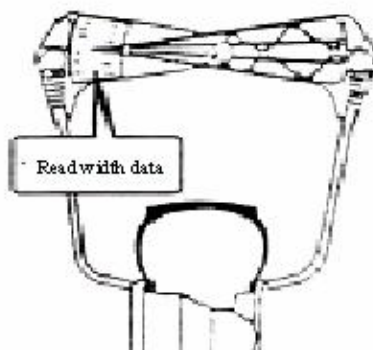

Fig.14
- I L value input. Use the width scale that is an accessory to measure width of the rim (Fig. 14). Press [+] and [-] buttons next to L button until the correct number is shown. Thus, the left display shows "L".
- Ø Do not touch the machine during a wheel spin. Otherwise, the balance effect will be influenced.(fig.14)